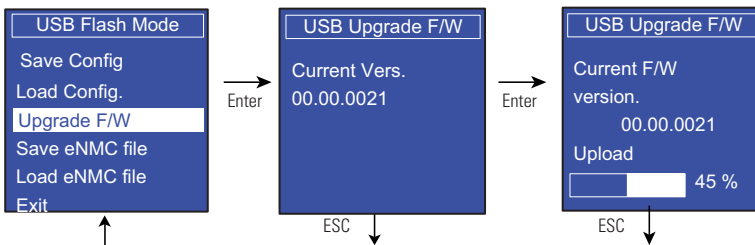

Figure 69. Example Upgrade in Progress
9. A few seconds after 100% is reached, the eNMC module restarts and then enters in Boot upgrade mode to continue upgrade. The upgrade is finished when eNMC module is restarted. This can take several minutes (see Figure 69).